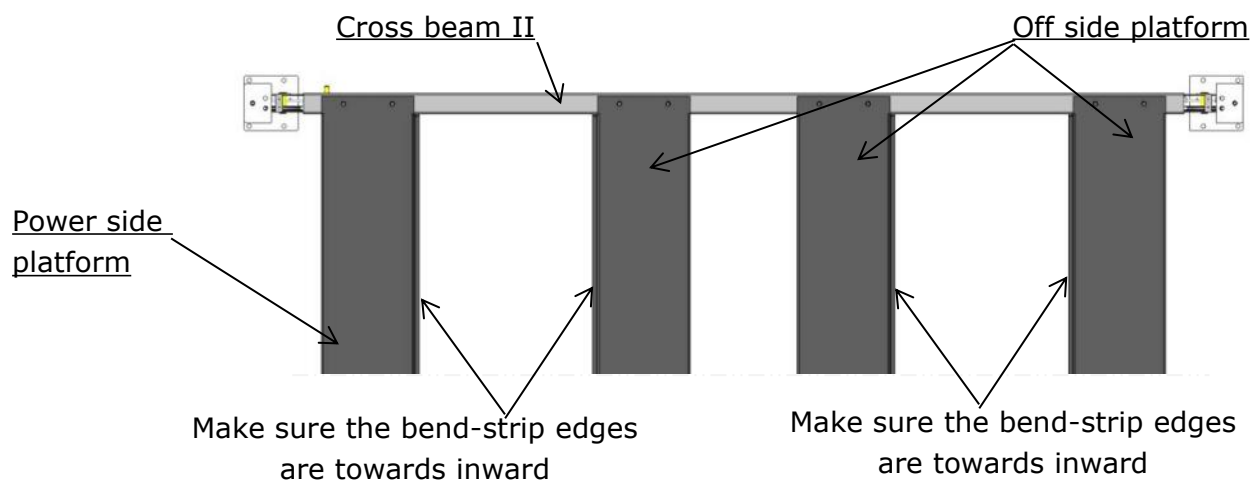

Fig. 22
1. Place the off side platform onto the cross beam. Note: Pay attention to the bend-strip edge of the platform.(See Fig.22)